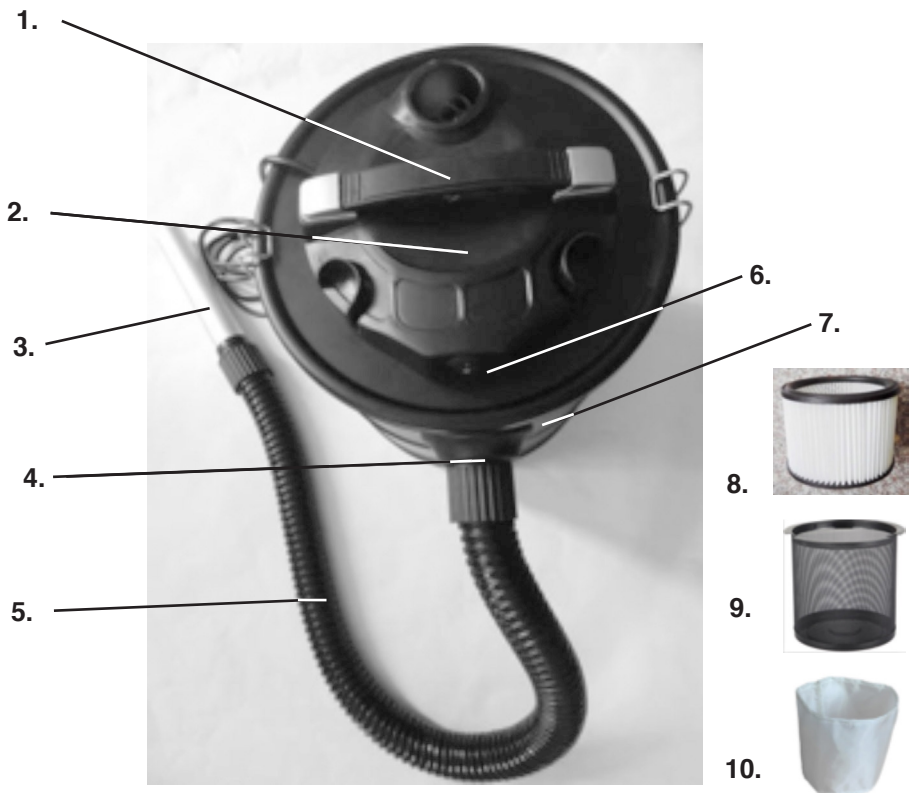

Fig. A1
- Remove the appliance and accessories from the packaging and check that the appliance and accessories are in good condition (Fig. A1).
- Insert the aluminium tube into the hose and then insert the other end of the hose into the air inlet (Fig. A1).